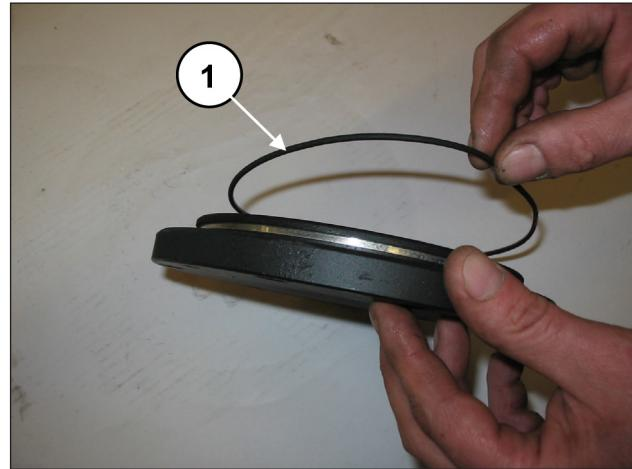
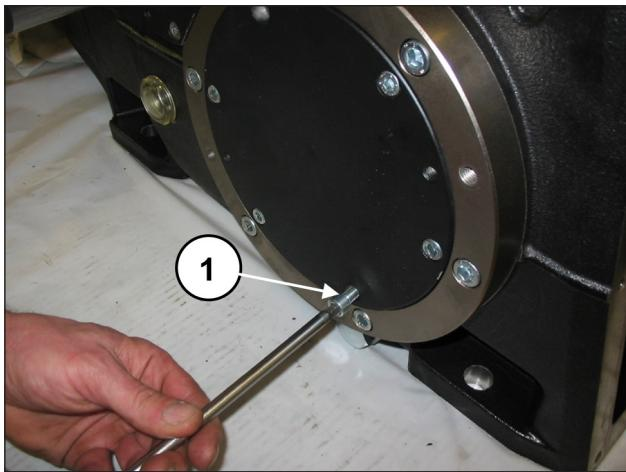

Fig. 89
Fig. 90
Assemble the two bearing covers (and relative O-rings) (pos. ①, Fig. 89) with 6+6 M8x20 screws (pos. ①, Fig. 90).